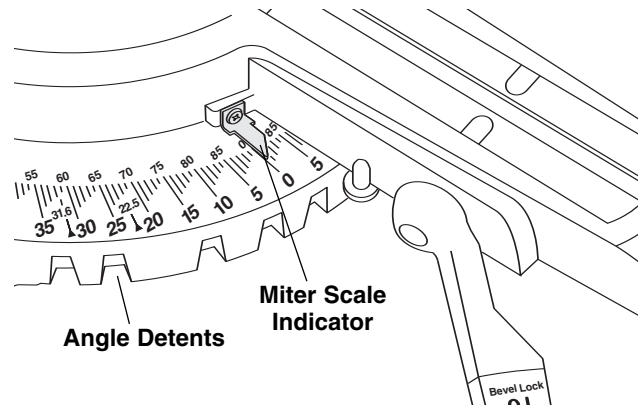

Figure 1. Miter Scale Indicator
1. Move the table to the detented angle that is to be adjusted (Figure 1).